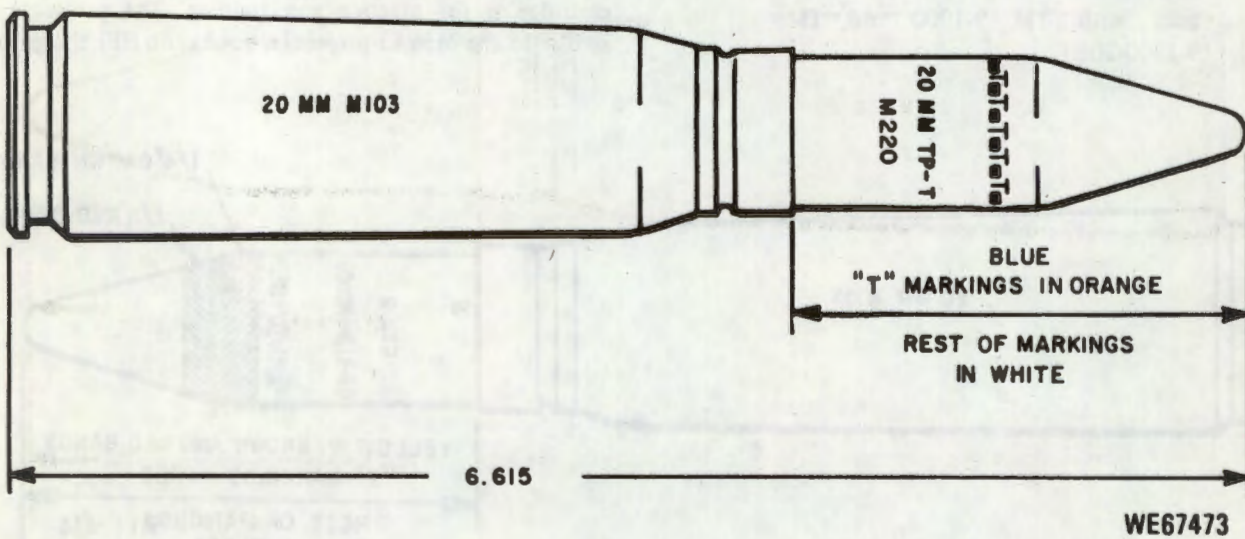

Figure 5-3. Marking of target practice-tracer (TP-T) M220 cartridge.
c. *Target Practice-Tracer (TP-T), M220 (fig. 5-3).* This cartridge is for practice and training. The projectile is similar to the M56A3 projectile, but has no HEI charge and